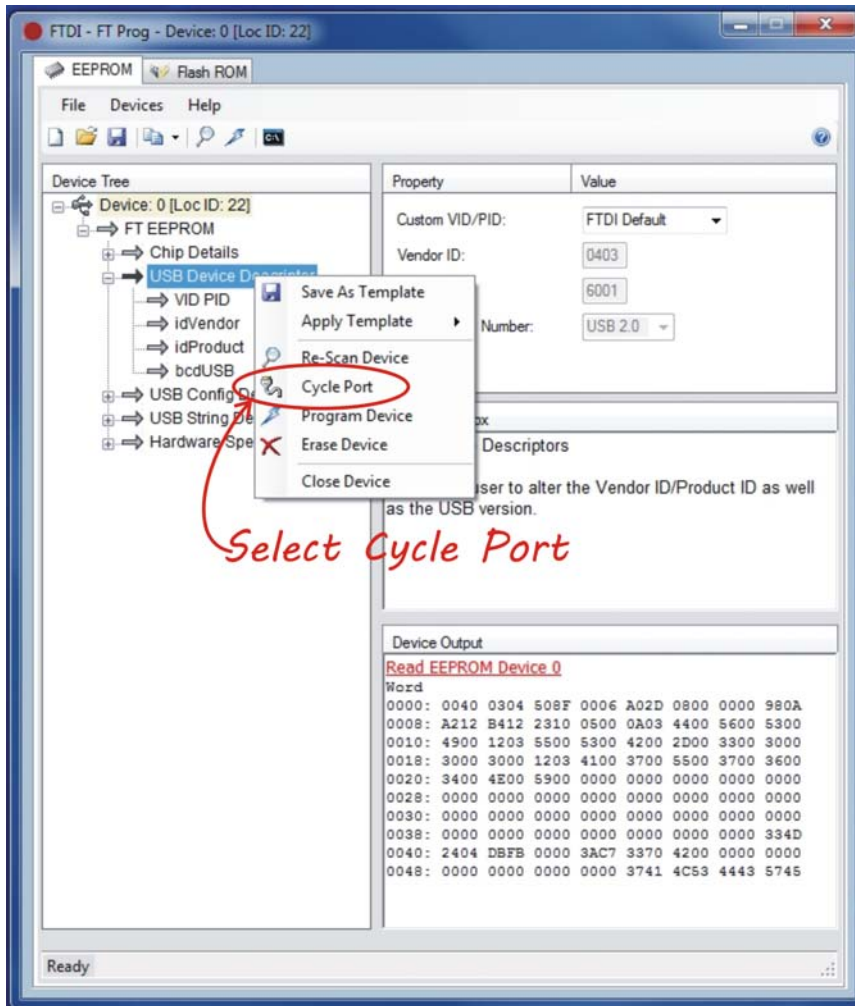

Figure 8 Cycle Port
Step 8. Verify the USB-3000™ now has the default FTDI Product ID, by right clicking on the USB Device Descriptor and Click on select the "Cycle Port" button. See Figure 8 Cycle Port This will to re-enumerate the